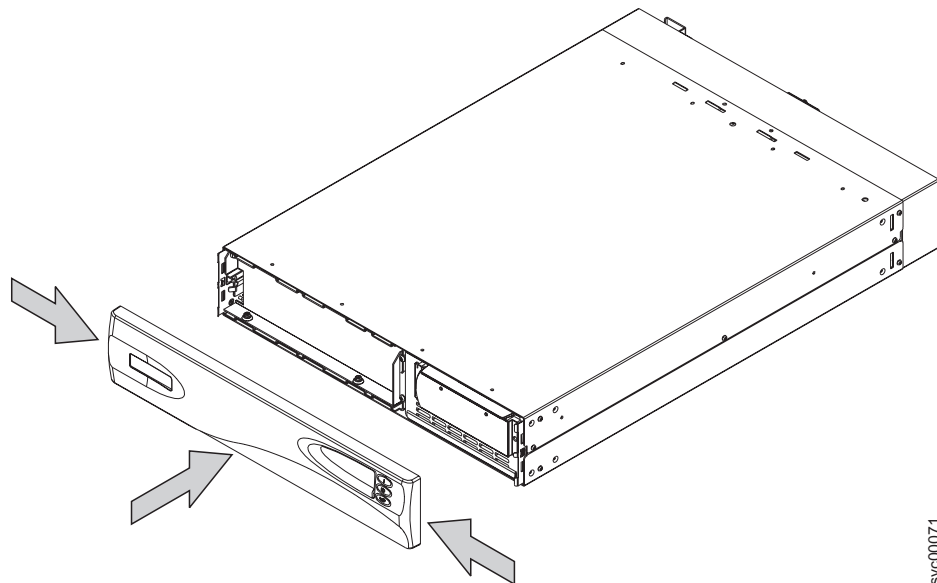

Figure 314. Replacing the 2145 uninterruptible power supply front panel
6. Replace the front panel by pressing the sides inward, and pushing on both ends towards the 2145 uninterruptible power supply, as shown in Figure 314).